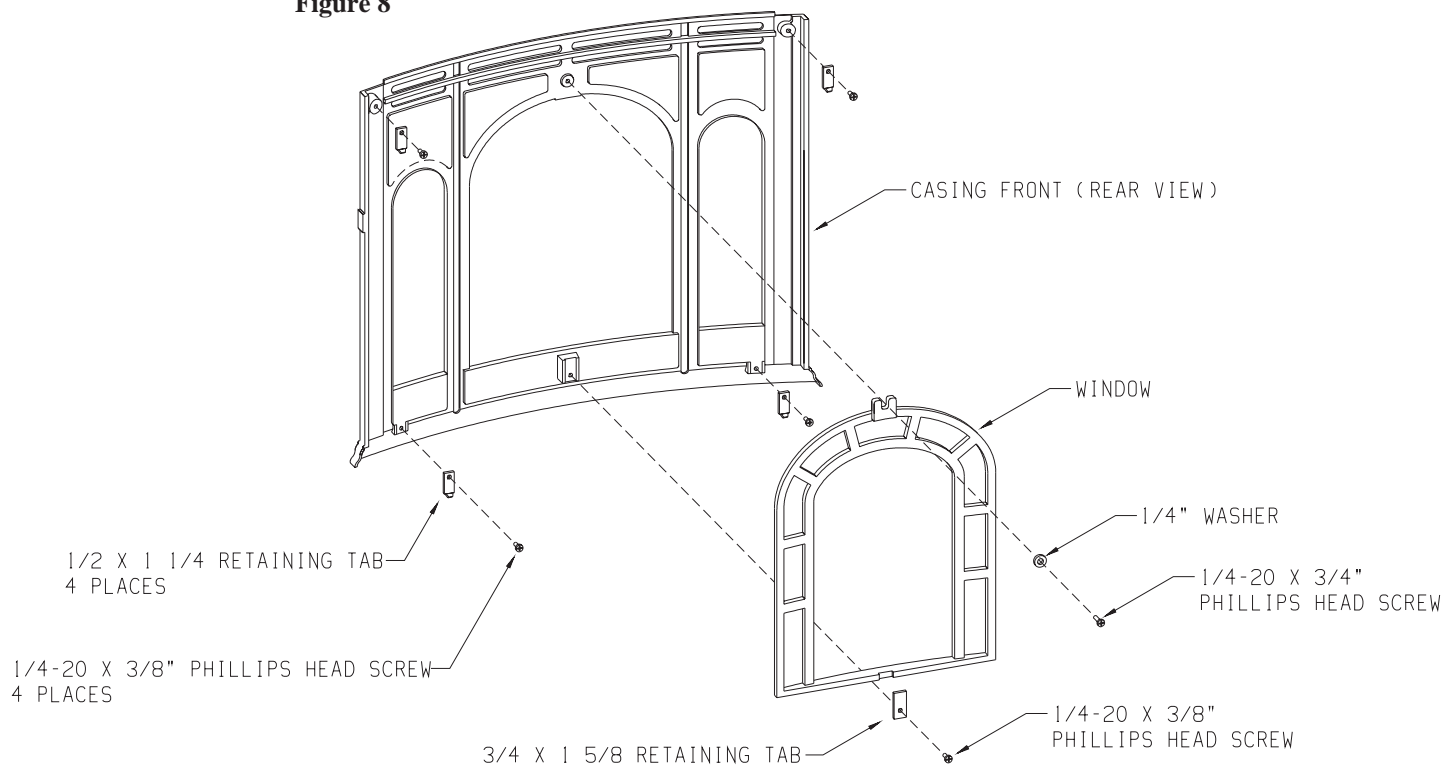

Figure 9
- C. Removing protective packaging from casting front and window (Figure 9).
9. Refer to Figure 9, remove protective packing foam from casting front and window. Remove the (1) 3/4" bolt and (1) 1/4" washer from top of window. Remove (1) 3/8" bolt and 1 - 5/8" x 3/4" retaining tab from bottom of window. Remove the window from casting front. Remove the protective sheet of foam from the casting front. Place the window into the casting front. Attach the top of the window to the casting front with (1) 1/4" washer and (1) 3/4" bolt. Place the 1 - 5/8" x 3/4" retaining tab into the locator notch on the bottom of the casting front. Attach the bottom of the window to the casting front by inserting (1) 3/8" bolt through retaining tab and into locator notch.
10. Refer to Figure 9, attach the (4) 1-1/4" x 1/2" retaining tabs to the casting front with (4) 3/8" bolts. The retaining tabs should be positioned downward.